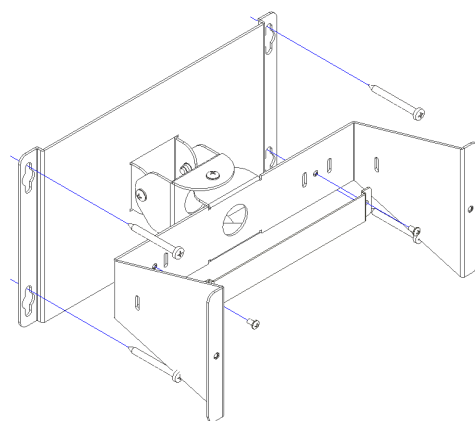

Figure 1
Step 1 – Pre-drill and partially thread #10 x 2" screws or wall anchors, not included, in the desired mounting location. If not using a Cisco Access Point, Attach the T-bar bracket to the mounting bracket with 2 #6-32 x 1/4" screws. Fasten the wall screws to studs or joists if possible. Slide the mount over the screw heads through the keyhole slots and finish securing the mount (Figure 1). Tighten the screws of the articulation bracket in the desired position.